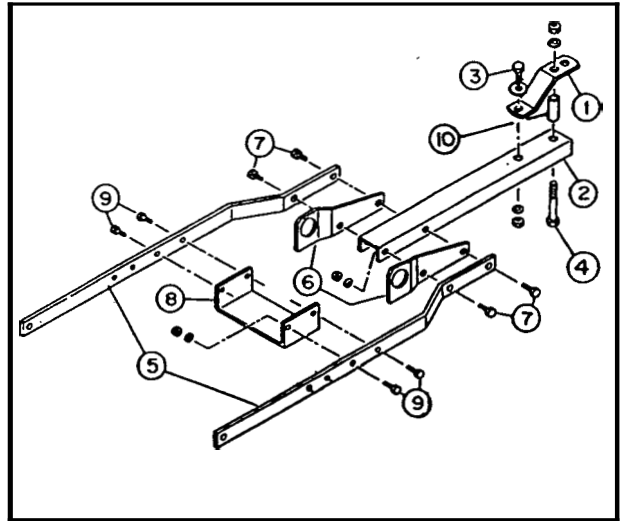
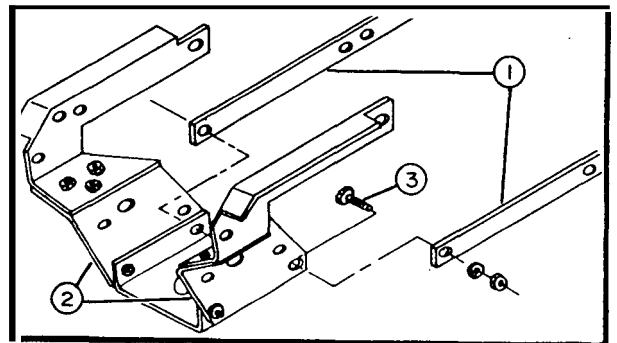
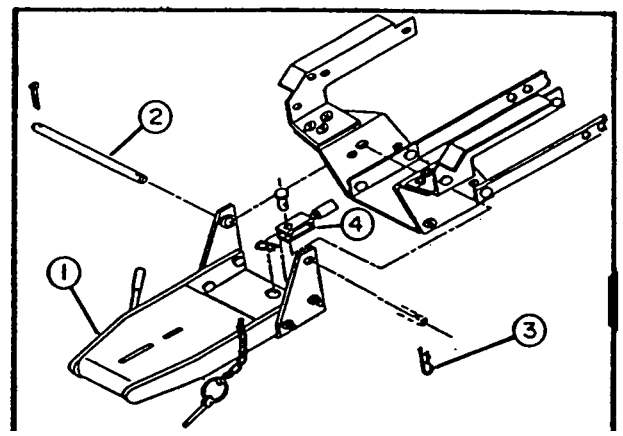

FIGURE 1
FIGURE 7
FIGURE 8
- a) Loosely attach rear hitch plate (fig.1, item 1) to bottom of subframe channel (fig.1, item 2).
Use a 1/2" x 1 1/4" bolt (fig.1, item 3), flatwasher, lockwasher and nut, and a 1/2" x 5" bolt, long tube spacer (fig. 1, item 10), lockwasher and nut (fig.1, item 4). Do not tighten yet.
- b) Loosely attach subframe flatbars (fig.1, item 5) and the lift support brackets (fig.1, item 6) to the sides of channel (fig.1, item 2).
Use four 1/2" x 1 1/2" bolts (fig.1, item 7), lockwashers and nuts. Do not tighten yet.
- c) Loosely attach the support plate (fig.1, item 8) inside the subframe flatbars (fig.1, item 5).
Use four 3/8" x 1 1/4" bolts (fig.1, item 9), lockwashers and nuts. Do not tighten yet.
- g) Position the subframe channel (fig.1, item 2) in line with subframe flatbars (fig.1, item 5) and securely tighten bolts (fig.1, item 7 and 9).
- c) Loosely attach front of subframe flatbars (fig.7, item 1) to the outside attaching plates. Use two 1/2" x 1 1/2" bolts (fig.7, item 3), lockwashers and nuts. Install the bolts from the inside as shown. Do not tighten yet.
- d) Attach the subframe's rear hitch plate (fig.1, item 1) to the tractor's rear draw plate with the 1/2" x 5" bolt (fig.1, item 4).
- f) Slide the male hitch assembly (fig.8, item 1) between the attaching plates (fig.7, item 2). Align the hard bushing holes and attach the hitch to the subframe with the 5/8" x 10 5/8" pin (fig.8, item 2). Secure the pin with a 5/32" x 1" cotter pin on one end and a 4mm x 80mm spring clip (hair pin) (fig.8, item 3) at the other end.
- g) Attach the fork end of the push arm (fig.8, item 4) to the bottom of the pivot bracket with a 5/8" x 1 5/8" pin and a 4mm x 80mm spring clip (hair pin).
- j) Secure the rear hitch plate (fig.1, item 1) to the tractor by tightening the 1/2" x 5/8" bolt (fig.1, item 4), and then the 1/2" x 1 1/4" bolt (fig.1, item 3). Refer to the Torque Specification Table **on page 11**.
- b) Remove 1/2" x 5" bolt (fig.1, item 4) from the tractor's rear draw plate.
- c) Remove the two 1/2" x 1 1/4" bolts (fig.?, item 1) that secure the subframe flatbars to the attaching plates.
- d) Disconnect the end of the push arm (fig.8, item 4) from the pivot bracket by removing the 5/8" x 1 5/8" pin.